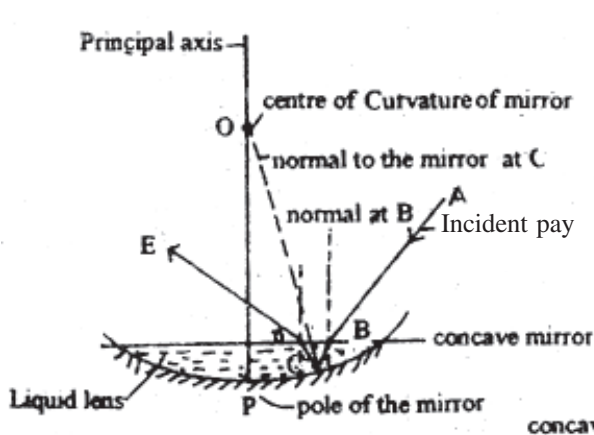

Fig. 18.1 : Ray diagram
- (ii) Put the vertical clamp stand near the concave mirror and clamp the object pin horizontally in the vertical rod of the stand. Adjust the tip of the object pin just vertically above the centre of the concave mirror as shown in figure 18.1.